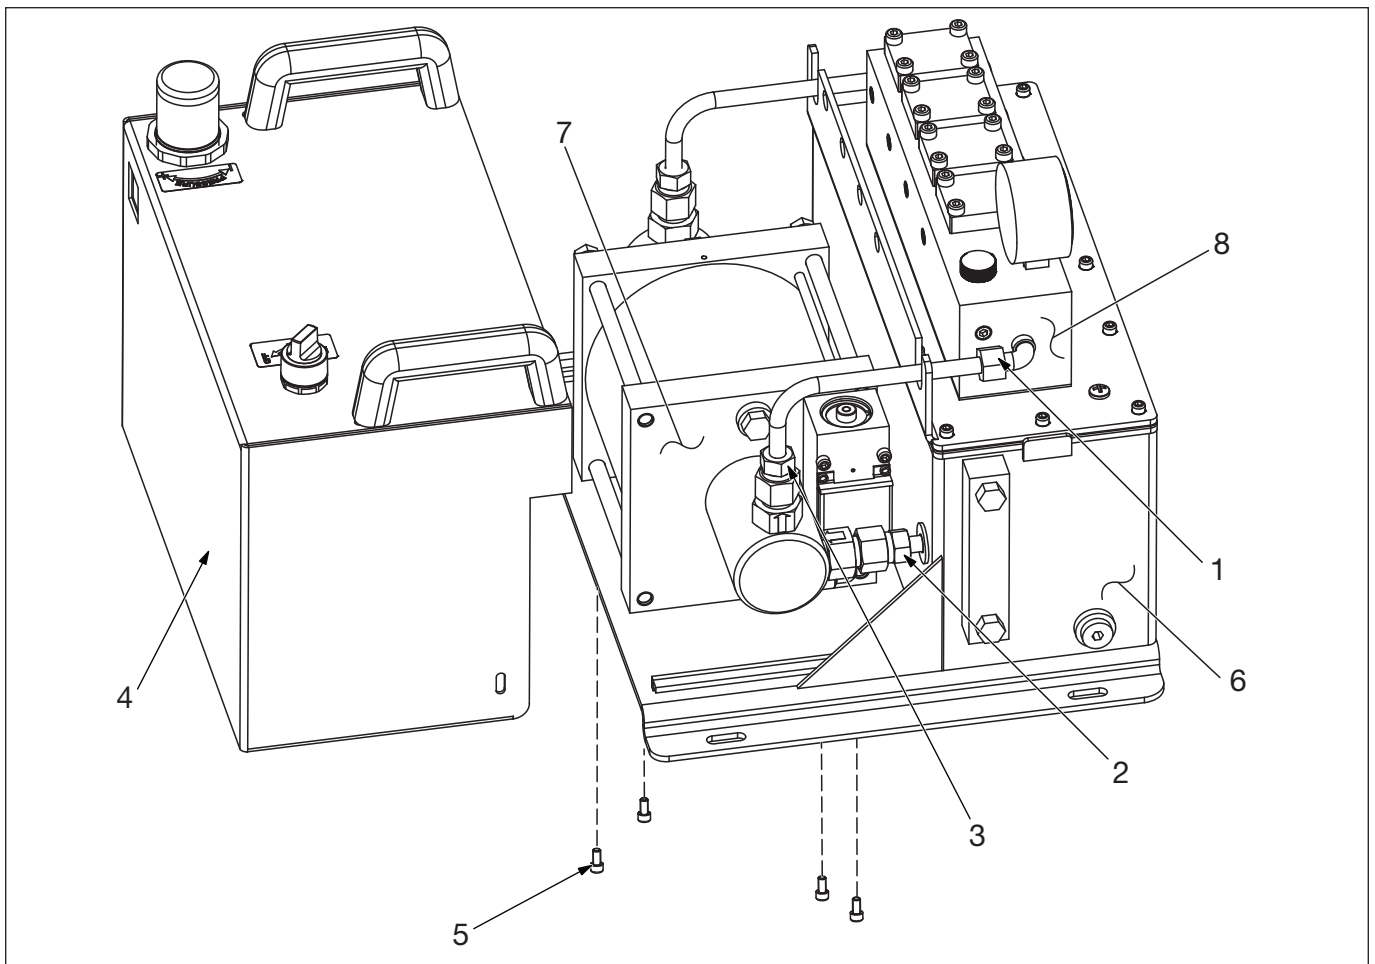

Figure 1, Pump Element Subassembly
2. Remove cover assembly (Figure 1, Item 4) from pump assembly. Refer to procedure in Section 6.3 of instruction sheet L4184.
3. Using a 3/4" [19 mm] box end wrench, disconnect the pipe-elbow connector (Figure 1, Item 1) from manifold assembly (Figure 1, Item 8).
4. Using a 3/4" [19 mm] box end wrench, disconnect the pipe-elbow connector (Figure 1, Item 3) from piston rod assembly (Figure 1, Item 7).
5. Remove elbow pipe from tank and manifold assemblies (Figure 1, Items 6 and 8).
6. Using a 3/4" [19 mm] box end wrench, disconnect connector (Figure 1, Item 2) from tank assembly (Figure 1, Item 6).
8. Remove four screws (Figure 1, Item 5) from bottom of tank assembly (Figure 1, Item 6).
9. Remove pump element subassembly (Figure 1, Item 7) from manifold and tank assemblies (Figure 1, Items 6 and 8).
- Install piston rod assembly (Figure 1, Item 7) on manifold and tank assemblies (Figure 1, Items 6 and 8) with four screws (Figure 1, Item 5).
- Install elbow-pipe from tank and manifold assemblies (Figure 1, Items 6 and 8).
- Using a 3/4" [19 mm] box end wrench, tighten the pipe-elbow connector (Figure 1, Item 1) onto manifold assembly (Figure 1, Item 8).
- Using an adjustable or 3/4" [19 mm] box wrench, tighten the pipe-elbow connector (Figure 1, Item 3) onto piston rod assembly (Figure 1, Item 7).
- Using a 3/4" [19 mm] box end wrench, tighten connector (Figure 1, Item 2) onto tank assembly (Figure 1, Item 6).
- Install cover assembly (Figure 1, Item 4) onto pump assembly. Refer to procedure in Section 6.3 of instruction sheet L4184.